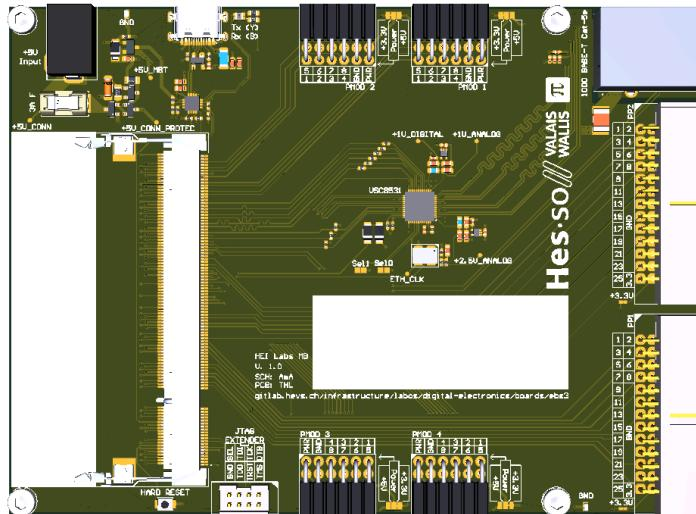

Figure 4 - FPGA board
- **bt�s[3:0]** : buttons S4 to S1 of the buttons-LEDs electronic board Figure 4, directly connected to register **x31**
- An FPGA development board, see figure Figure 4.